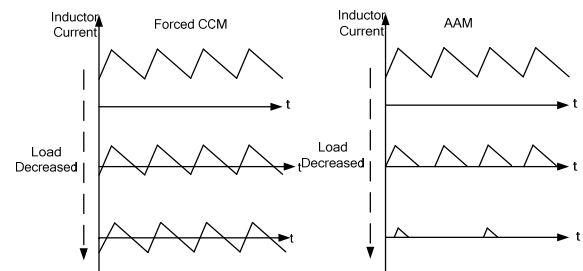

Figure 3: Forced CCM and AAM
Under normal-load conditions, the controller operates in full pulse-width modulation (PWM) mode (see Figure 3). At the beginning of each oscillator cycle, the top gate driver is enabled. The top gate turns on for a period determined by the duty cycle. When the top gate turns off, the bottom gate turns on after a dead time and remains on until the next clock cycle begins.
The MPQ2918 employs advanced asynchronous mode (AAM) functionality to optimize efficiency during light-load or no-load condition (see Figure 3). AAM is enabled when CCM/AAM is at a low level by connecting an appropriate resistor to SGND to ensure that the AAM voltage (V_{AAM}) is no less than 480mV. See Equation (1):